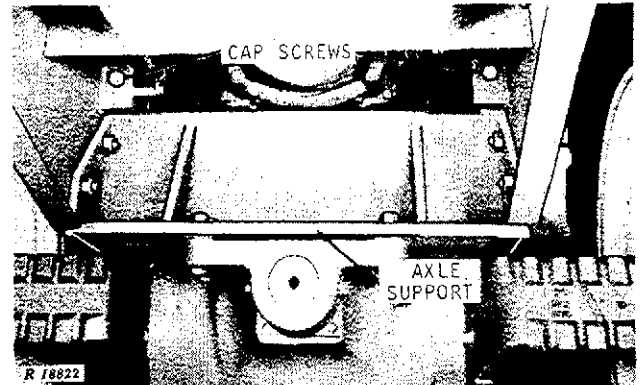

Fig. 18-Front Axle Support Upper Cap Screws
The front axle assembly may be removed with or without the axle support (Fig. 18). Remove the axle assembly with axle support when work is to be done on the engine without removing side frames. Remove the axle assembly without the axle support when repair is to be made on the axle assembly only.
Refer to Figs. 18 and 19 while performing the following steps:
2. Remove the two upper cap screws (Fig. 18).